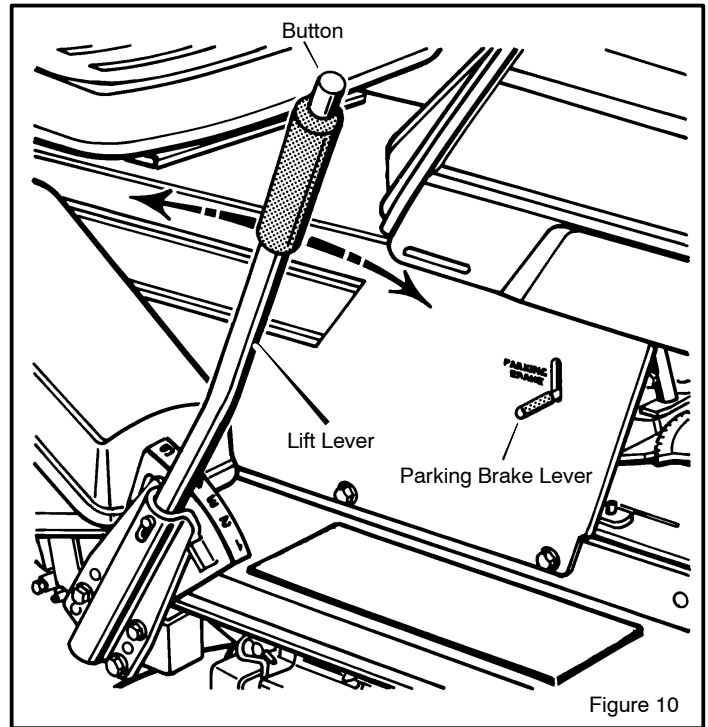

Figure 10
2. Lift the **parking brake lever** (Figure 10).
**WARNING:** Before you leave the operator's position, move the shift lever to the neutral (N) position. Set the parking brake. Move the blade rotation control to the DISENGAGE position. Stop the engine and remove the ignition key.
1. To release the **lift lever**, push the **button** on top of the **lift lever** (Figure 10).